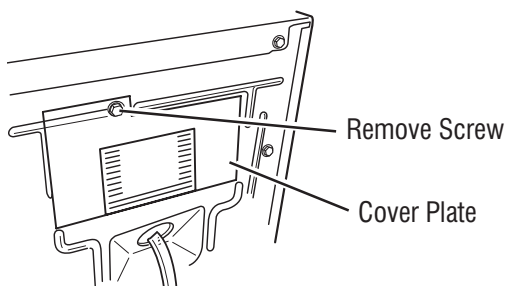

Figure 12 - Remove the cover plate.
2. Remove the cover plate from the top right corner of the back of the dryer. See figure 12.